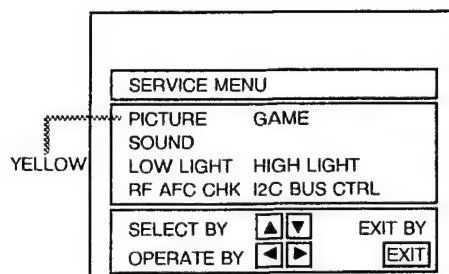

Fig. 1
- 1) Press the DISPLAY KEY and VIDEO STATUS KEY of the REMOTE CONTROL UNIT at the same time to display the SERVICE MENU screen shown in Fig.1.
(2) SERVICE MENU screen selection